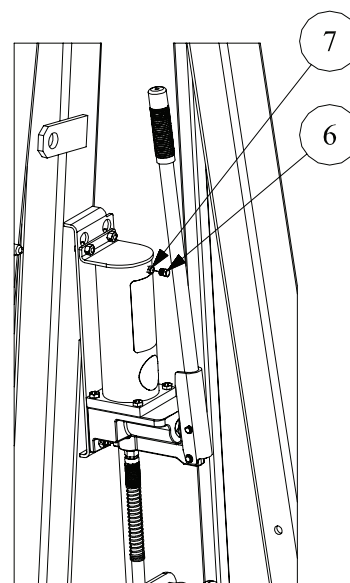

Figure 3
7. Remove the shipping plug [#6] from the pump [#4] as shown in Figure 3.